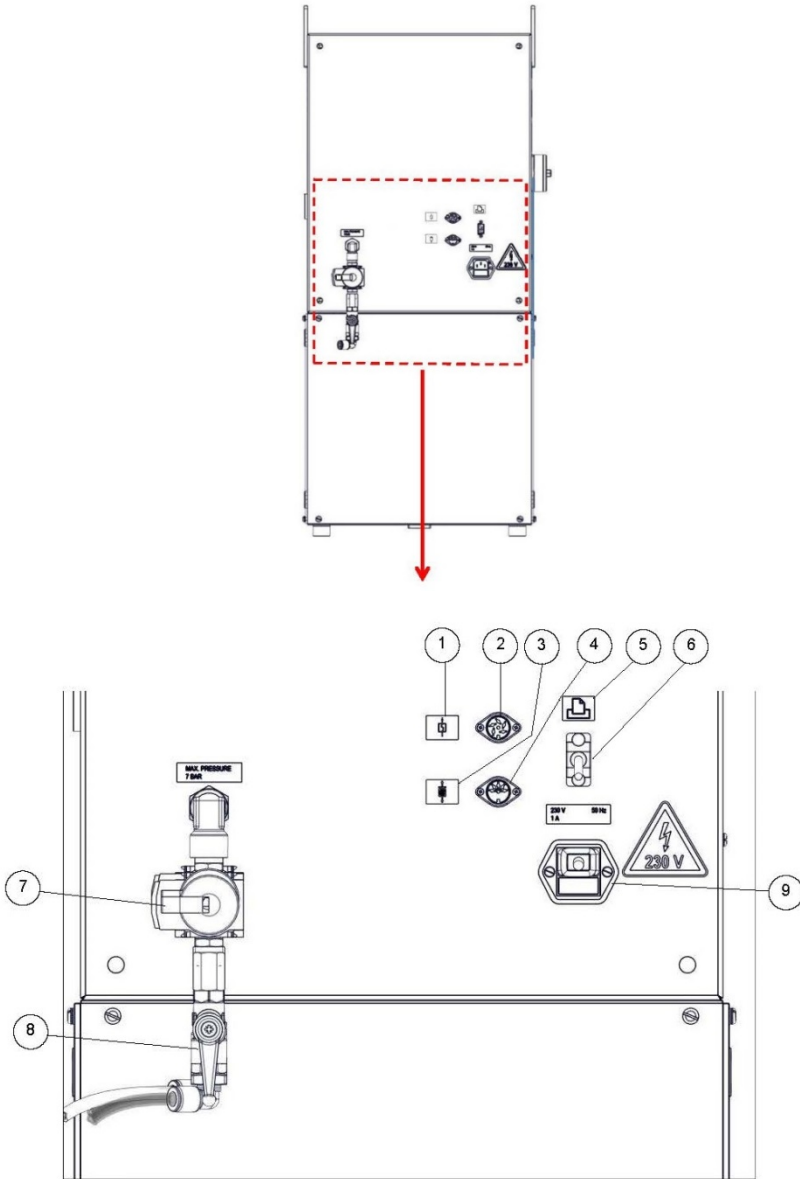

Figure 8.2: Minilab Rear
1. Connect the Permeability Meter (Models PED or PDU), equipped with the Analog Output PED, to the interface connection on the rear of the Minilab labelled, "Permeability" (Figure 8.2, Item 1).
1. Connect the Wet Tensile Strength Testing Apparatus (Model PNZ), equipped with the Analog Output PNZ, to the interface connection on the rear of the Minilab labelled, “Wet Tensile Strength” (Figure 8.2, Item 2).
Ensure that the Piston presses the Calibration Insert with a force of approximately 2000 N when the operating pressure is set to 2.5 bar. If you are not certain that the calibration insert can support this pressure, reduce the operating pressure on the Pressure Regulator (Figure 8.2, Item 3).